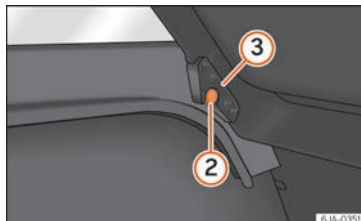

Fig. 165 Remove the shelf.
- Adjust the shelf supports ③ »» Fig. 165 to fit the supports ② in the trim.
- Attach the straps ① to the tray.
- The shelf supports ③ »» Fig. 165 must be securely in place in the trim supports ②.